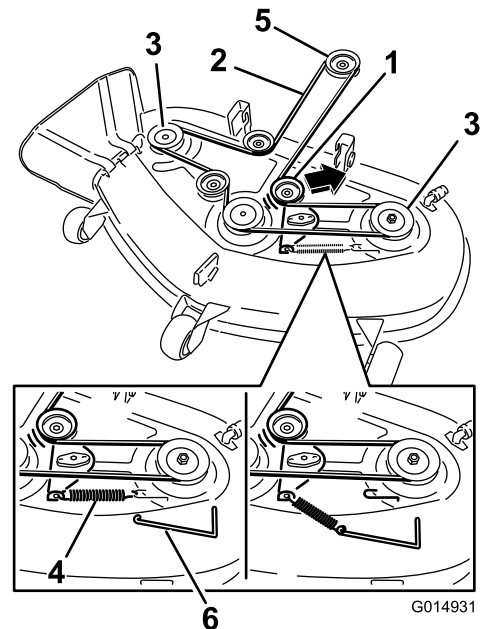

Figure 60
4. Using a spring removal tool, (Toro part no. 92-5771), remove the idler spring from the deck hook to remove tension on the idler pulley and roll the belt off of the pulleys (Figure 60).
- 5. Route the new belt around the engine pulley and mower pulleys (Figure 60).
- 6. Using a spring removal tool, (Toro part no. 92-5771), install the idler spring over the deck hook and placing tension on the idler pulley and mower belt (Figure 60).